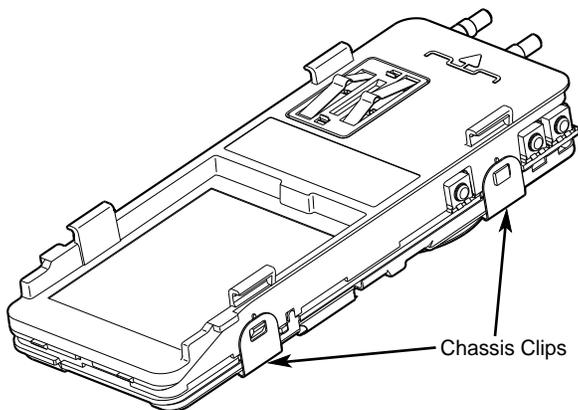

Figure 3-6.
2. Using a small flat blade screwdriver, unlock the four chassis clips while pressing down on the chassis directly above each clip. (Refer to Figure 3-6.)